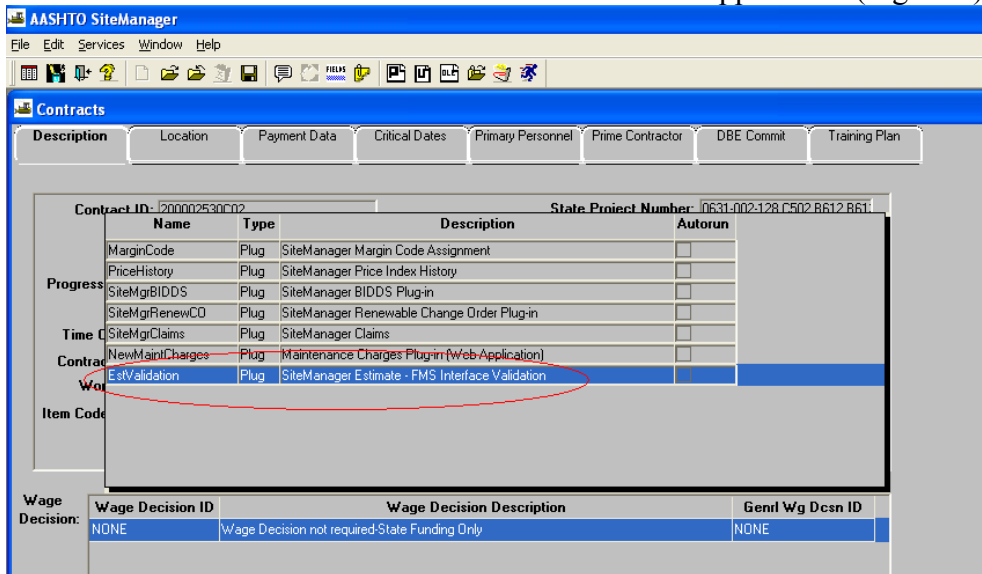

Figure 1
Step 3: Click on Attachments and double click EstValidation Application (Figure 1)